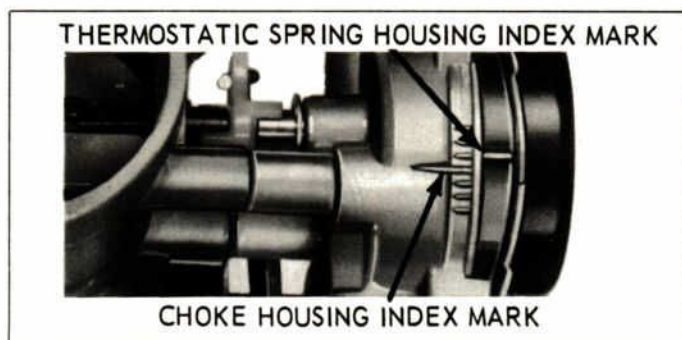

Figure 20—Thermostatic Spring Housing Adjustment
**Thermostatic Spring Housing Adjustment** controls the amount of heat required to open and close the choke plate. Turning the housing in a counterclockwise direction will require a higher temperature (cold weather operation) to fully open the choke plate. Turning the housing in a clockwise direction will cause the plate to be fully open at a lower temperature. This is in the lean direction as indicated by the arrows. About one (1) mark rich is the normal setting, Figure 20.